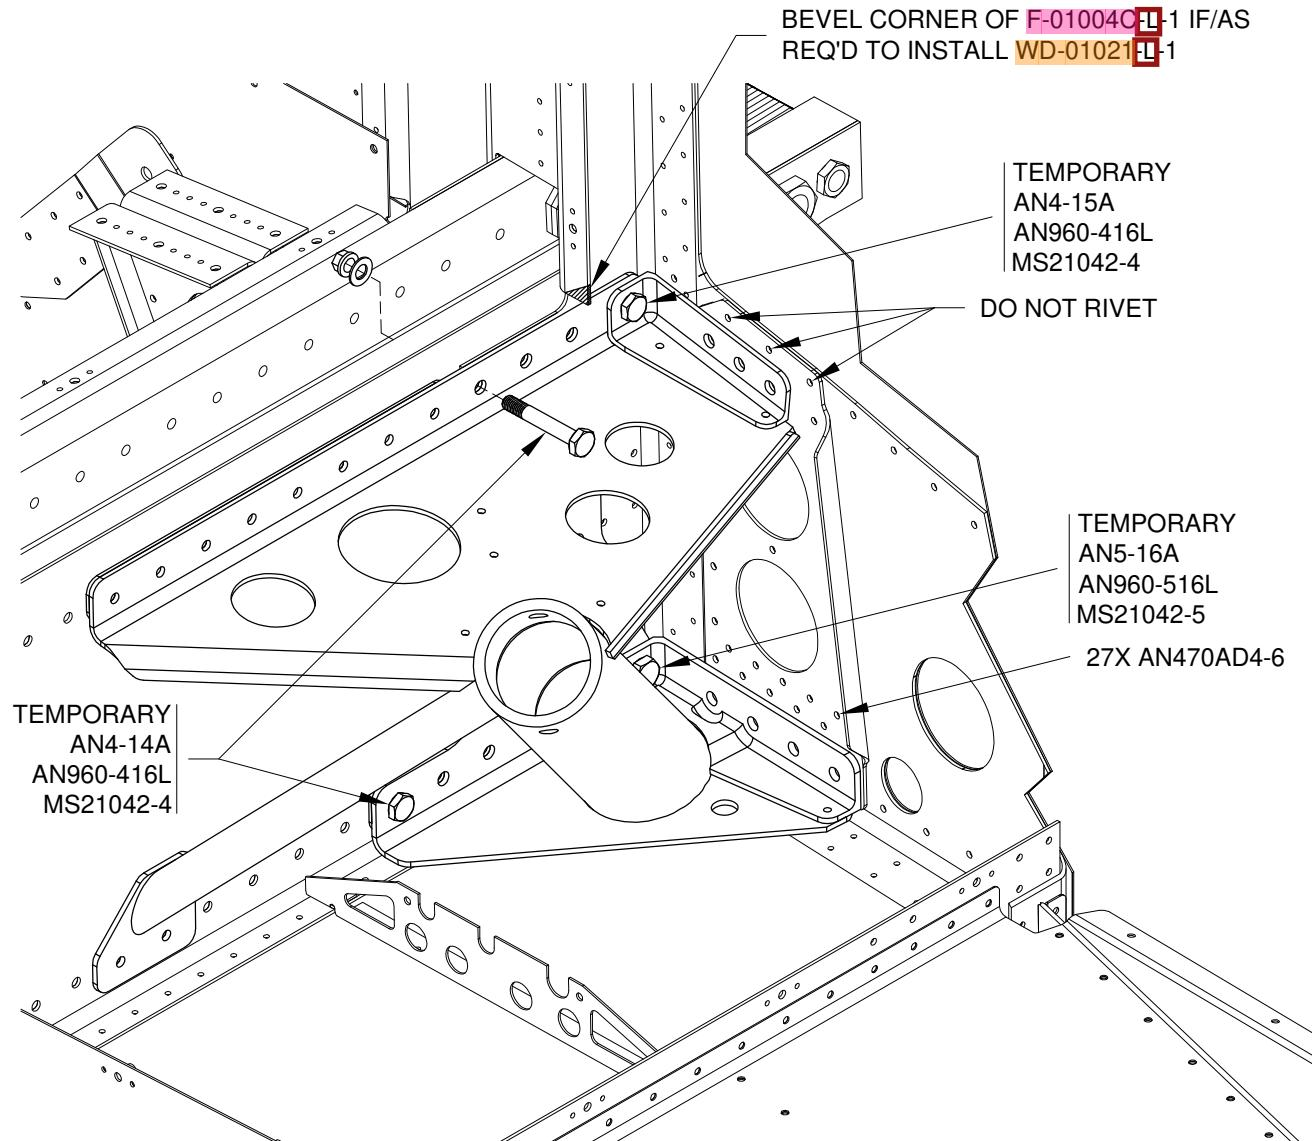

FIGURE 2: TEMP INSTALL LANDING GEAR MOUNT
Step 12: Cleco, then rivet all of the holes in the side plate doubler except for the upper row of three holes as shown in Figure 2.